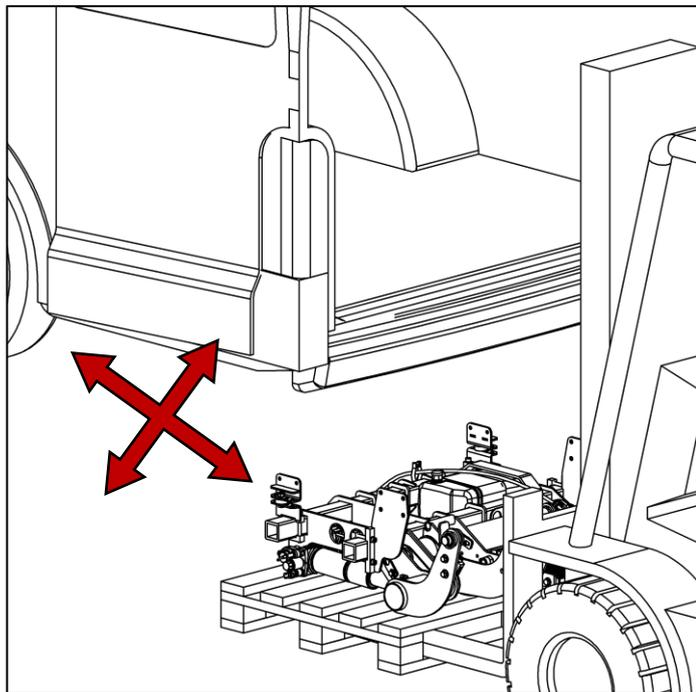

Fig. 26
- Align the lifting gear under the vehicle on a mounting tool or pallet (see Fig. 26).